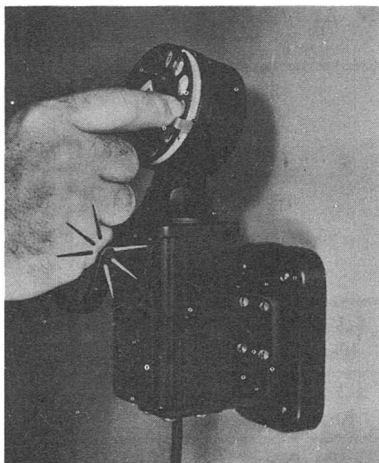

Fig. 1—Handset in Front
3.04 Whenever possible, hangup-type hand telephone sets should be mounted on walls with line switch to right or left of mounting. Dial should be mounted parallel to wall. This arrangement will reduce the possibility of handset's being knocked from cradle and will prevent cutoffs while dialing (Fig. 1).